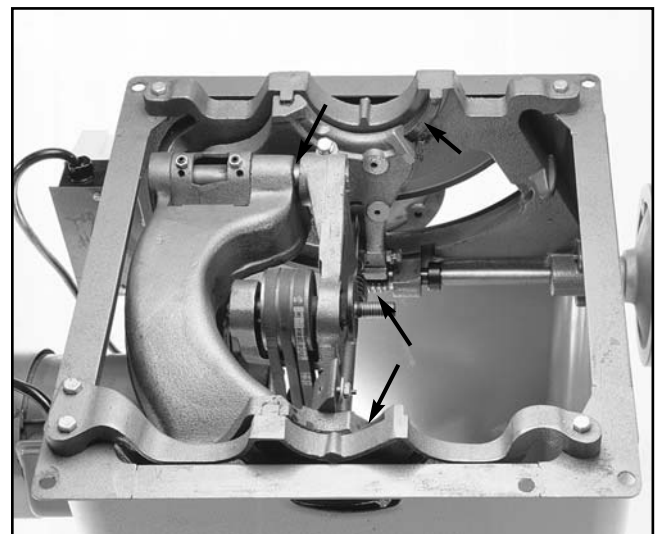

Figure 39.
3. **The two (2) worm gears** should be lubricated with a automotive wheel bearing grease. The blade angle worm gear is not shown in **Figure 39.**